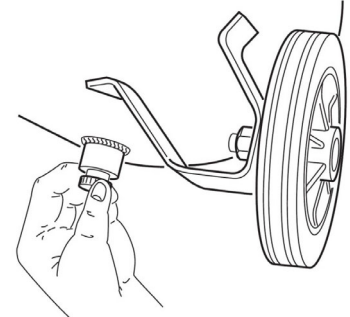

Fig. 8-1: Safety valve with ring
- Open the safety valve (Fig. 8-1) by briefly pulling the ring outwards until compressed air escapes and releasing it again (the pressure vessel must be pressurized).